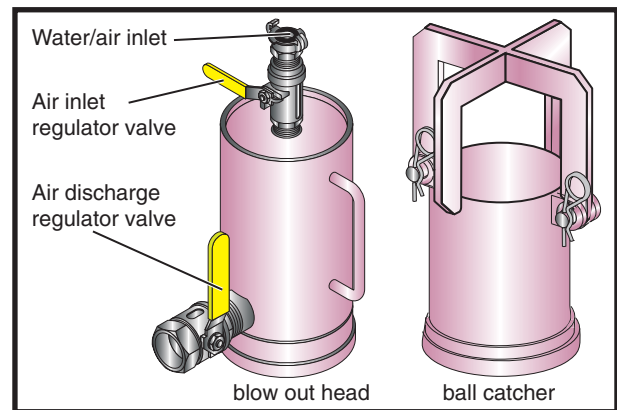

Figure 28
- **The pipe cleaning blow out head must be equipped with a properly sized air discharge regulator valve and a separate water/air inlet.** The two openings should be spaced apart far enough that a blowout ball could not cover both openings at once (Figure 28).